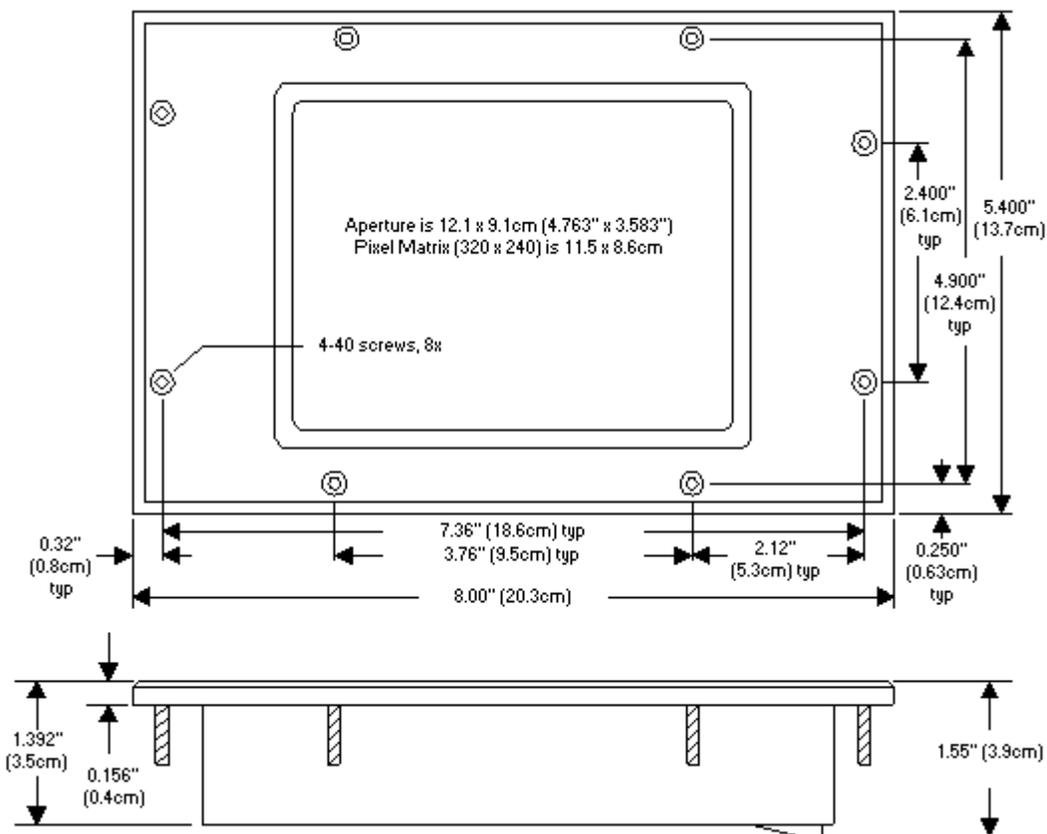

Figure 3.4: Nexus P60N Touch Screen Display Mounting Diagram
- If multiple I/O modules are connected together, as shown in Figure 3.4, secure a mounting bracket to both ends of the group. One Nexus will supply power for up to **four I/O modules**. To connect more than four I/O modules, use an additional power supply, such as the EIG Power Brick. Connect multiple I/O modules using the RS-485 side ports.